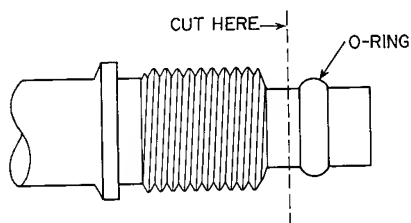

Fig. 6 — Repair of Mechanical Connection
**MECHANICAL CONNECTION** — Frontseat unit service valves. Relieve refrigerant pressure from tubing. Back off locknut from Compatible Fitting onto tube. Cut fitting between threads and O-ring. See Fig. 6. Remove tubing section remaining in threaded portion of fitting. Discard locknut.